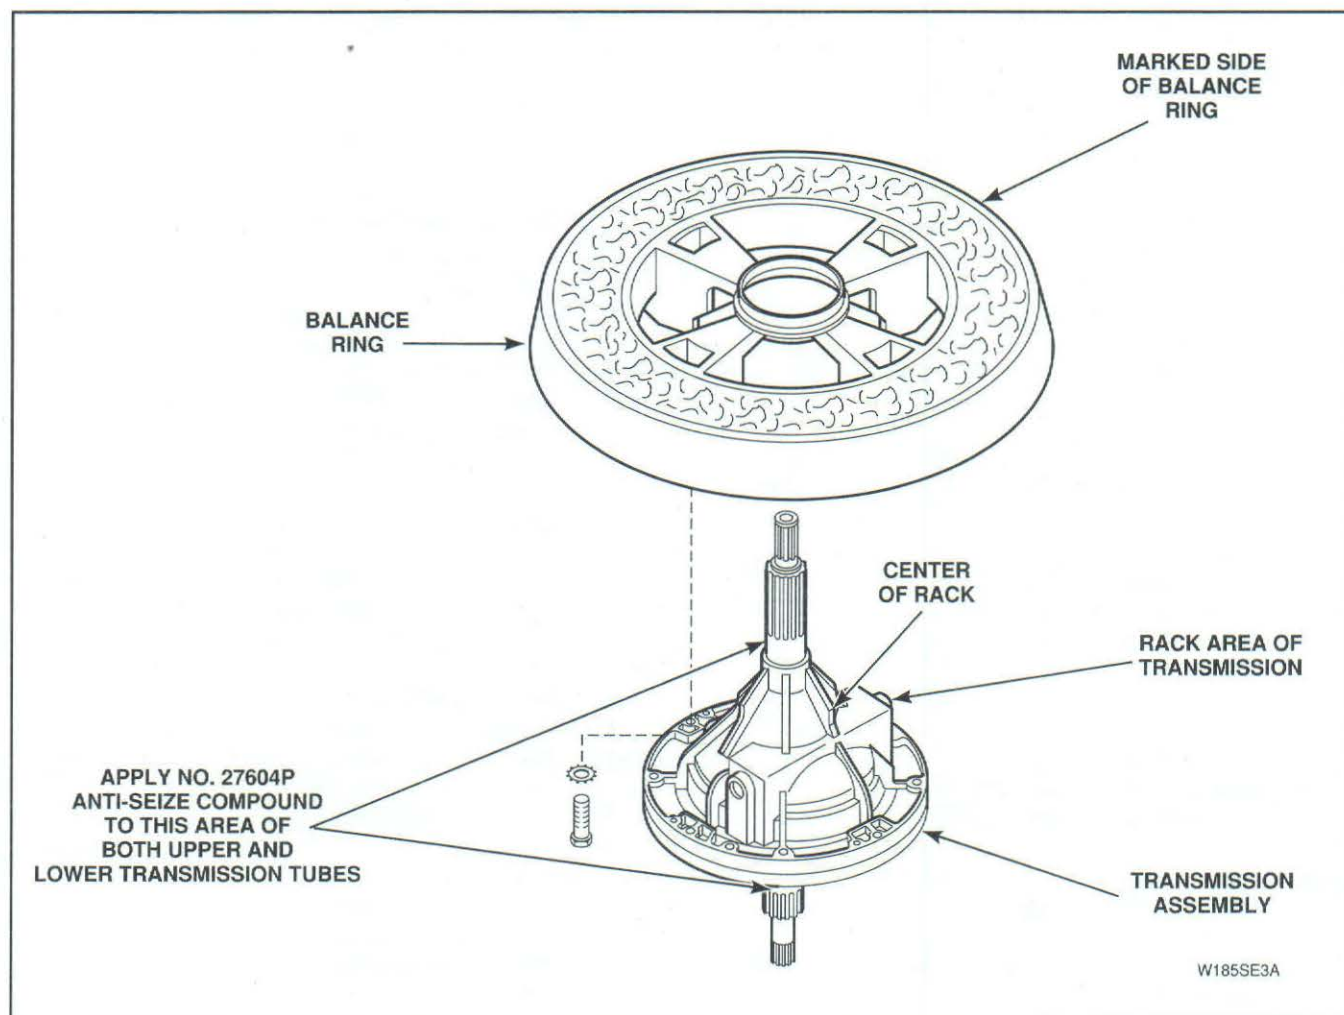

Figure 53
IMPORTANT: When installing lower bearing housing, apply No. 27604P Anti-Seize compound to the area of transmission tube that will be contacting bearing, *Figure 53*.
IMPORTANT: When installing lower bearing housing, pivot dome and brake assembly, apply No. 27604P Anti-Seize compound to area of transmission tube that will be contacting bearing, *Figure 53*.
- w. Remove four screws and lockwashers holding transmission assembly to balance ring, *Figure 53*, then lift transmission assembly straight up and out of balance ring and upper bearing.
IMPORTANT: When replacing or reinstalling transmission assembly, it is important that No. 27604 Anti-Seize Compound be applied to area of the transmission tubes where they will be contacting upper and lower bearings, *Figure 53*.
When reinstalling transmission assembly, note, if there is a mark located on outer edge of balance ring this mark (if present) indicates light side of ring. This light side must be installed at a 9 o'clock position with center of rack at 12 o'clock when viewed from top of transmission, *Figure 53*. Carefully lower transmission through balance ring and upper bearing. **DO NOT DROP OR LOWER TRANSMISSION ASSEMBLY INTO POSITION TOO HARD**, this can cause bearing to move within bearing housing which will cause vibration, noise, wear or no spin.
q. Apply Anti-Seize compound, No. 27604P, to smooth area of both transmission tubes that will be contacting upper and lower bearings, *Figure 53*.
IMPORTANT: When reinstalling balance ring, note, if there is a mark located on outer edge of balance ring, this mark (if present) indicates light side of ring. This light side must be installed at a 9 o'clock position with center of rack at 12 o'clock when viewed from top of transmission, *Figure 53*.